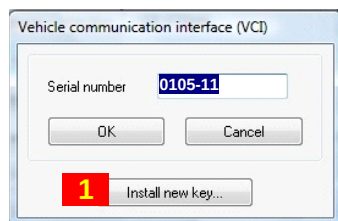
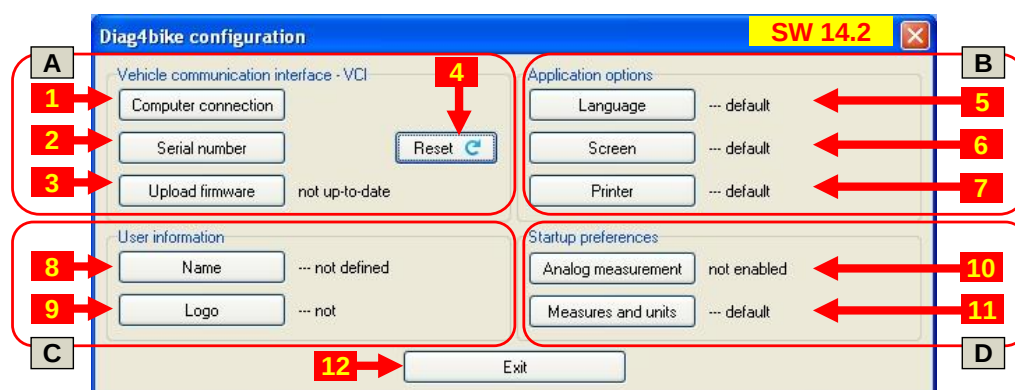
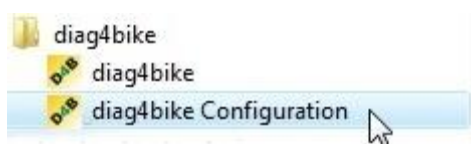
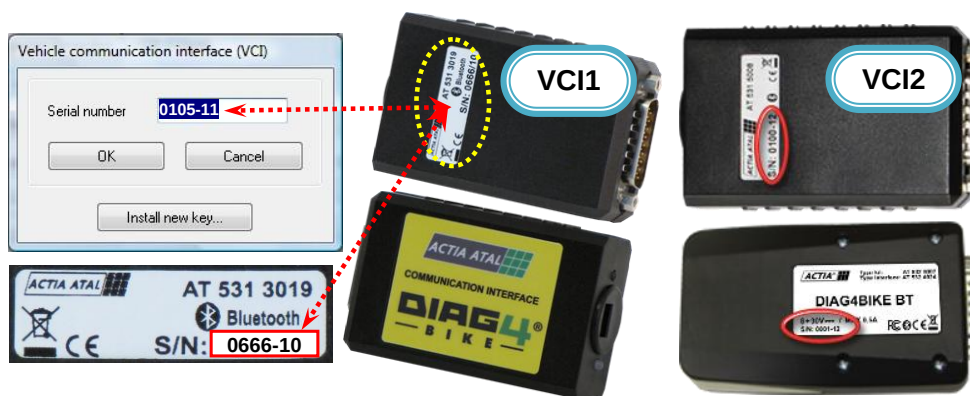

Fig. 12 – Button for entering the „Permanent key“
Fig. 13 – Configuration screen of the DIAG4BIKE program (prior to using the „VCI configuration assistant“ configuration utility) (illustrative picture)
Fig. 15 – Program group **DIAG4BIKE** (Start \ Programs \ **DIAG4BIKE** ...) for running the configuration utility
Fig. 21 – Dialogue window for entering the communication interface serial number, and its location on the label; VCI (1 - AT531 5075, 2 - AT532 5007)
Start the configuration program (see Fig. 15). After clicking the button at pos. 2, Fig. 13 and then the button at pos. 1, Fig. 12, the ordinary Windows menu for the selection of a previously saved file (e.g. monitor desktop, Flash Disk, etc.) will be shown. After highlighting and then confirming the corresponding file (see Fig. 11), everything will already install automatically.
The basic screen for the setting of basic parameters is shown in Fig. 13.
Button descriptions (Fig. 13):
- b) In case that the „VCI Configuration Assistant“ detects any problems with the configuration, e.g. in compliance of the series number, obsolete firmware version, etc. In this case it is recommended to click on the „Reset“ button (pos. 4, Fig. 13), and everything gets updated automatically.
The Assistant corrects only items under Section A, Fig. 13, others remain unchanged.
The configuration program is started by clicking on „**DIAG4BIKE Configuration**“ icon - see Fig. 15“
In case of a request for a new configuration, e.g. after replacement of VCI, verification of firmware update status, etc., the „Reset“ button is to be utilized (pos. 4, Fig. 13), which performs the function of searching for changes in VCI configuration, and of completing all necessary data.
After clicking on the button pos 1, Fig. 13) another menu is displayed where the communication channel for the communication between **DIAG4BIKE** and the computer can be set.
After clicking on the button (pos 2, Fig. 13) a new window is displayed where the communication interface serial number is to be entered (see Fig. 21), e.g.: **0666-10**.
- This must correspond with the label physically attached to the interface (see Fig. 21) as well as with the "released" number on the USB DISC, which is entered at the point of burning on the USB DISC based on the purchased license (is carried out by sales department).
If the control software, so called firmware (information received from manufacturer) must be updated, click on the „**Upload firmware**“ button (pos. 3, Fig. 13) and follow the update wizard on the screen.
Another possibility for the update is to use the „**Reset**“ button (pos. 4, Fig. 13), that starts inspection of parameter settings for the communication interface - including the so called COM ports (communication channels) - see chapter 8.2.4.7. Then the current firmware version in the
After clicking on the button (note 5, Fig. 13) a dialogue window for language selection is displayed.
After clicking on the button (note 6, Fig. 13) a dialogue window for screen resolution selection is displayed.
After clicking on the button (see. 7, Fig. 13) a dialogue window for printer selection is displayed. The settings is used for all reports, graphs etc. (it is independent on the windows settings).